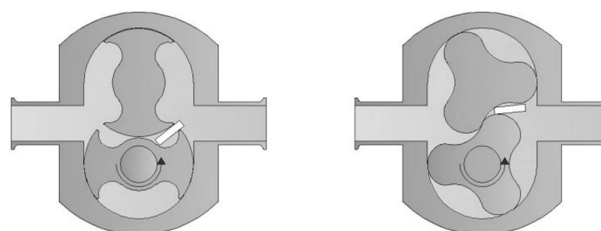

Figure 18 - Loosen the rotor bolt (bottom rotor)
- The rotors are secured by special slotted screws (59) and sealed by O-rings (58).
- Lock the pump rotors with a soft spacer (Figure 18) - a plastic block (180) is provided with the pump for this purpose.